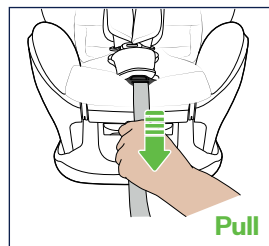

Figure 9
Step 2. Once slack is removed, pull on adjuster strap so that the harness over the shoulders is firm (Figure 9).